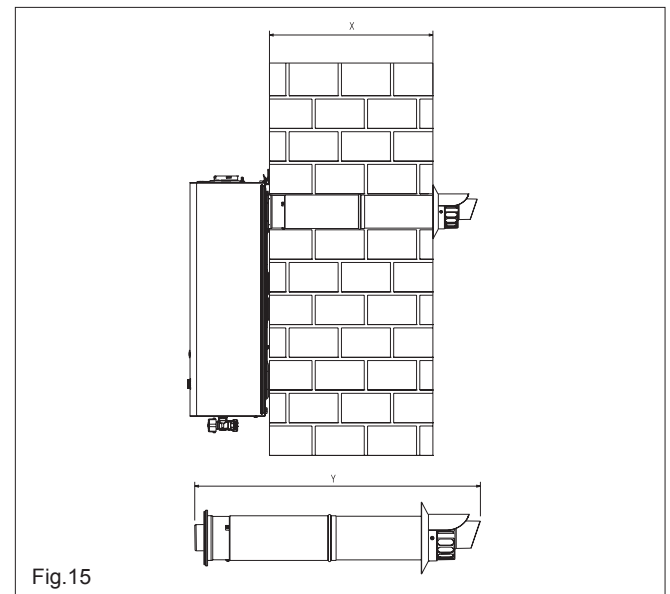

Fig. 15
4.5.1.2 FITTING THE REAR FLUE (fig. 15) (rear flue outlet only)